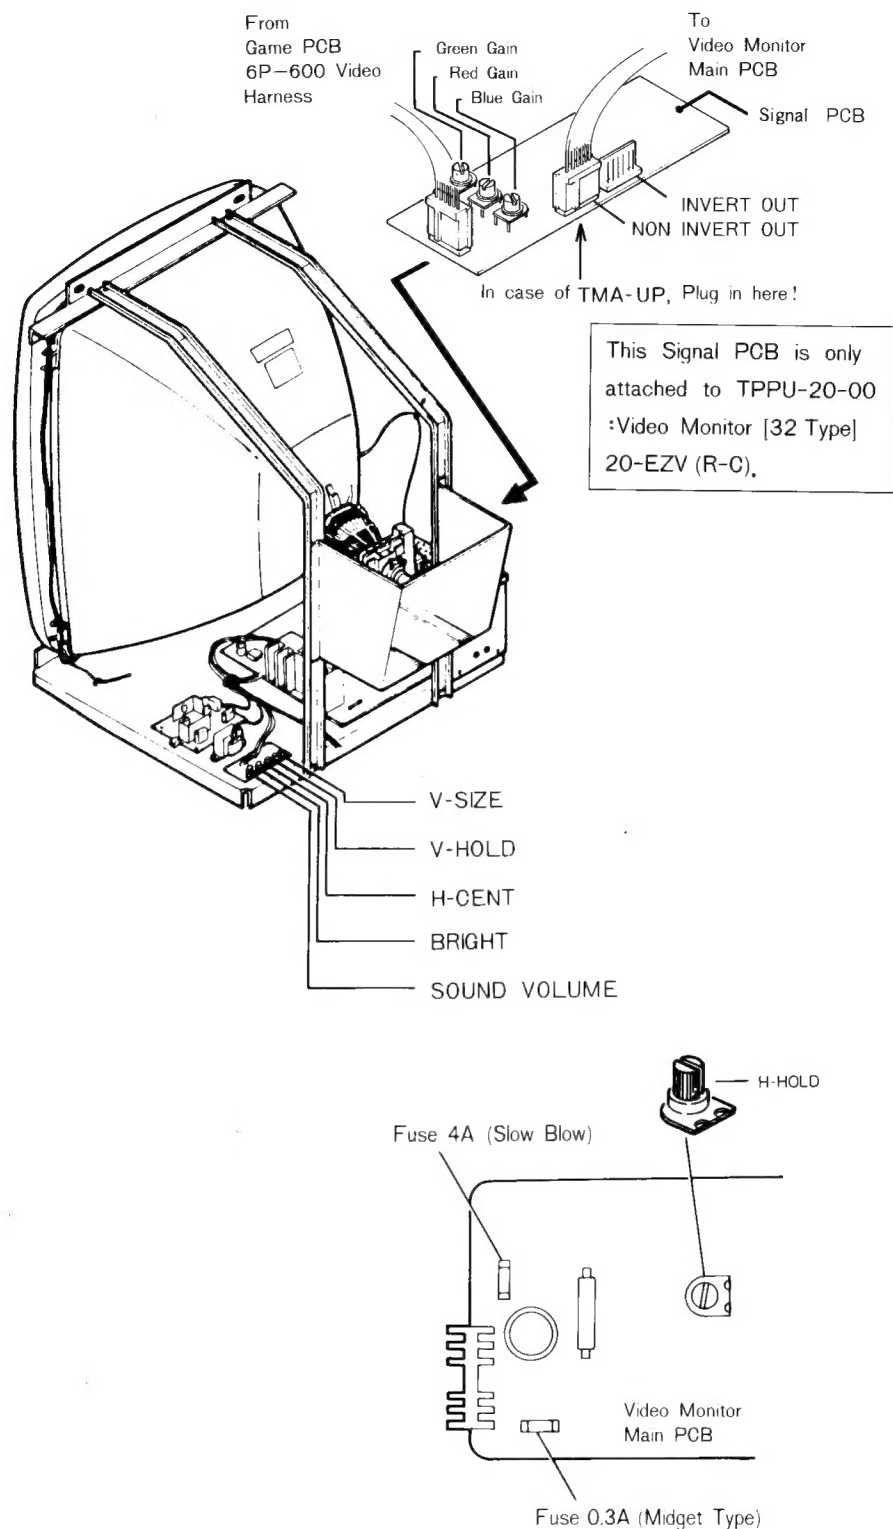

Fig. 4 Video Monitor
(3) Video Monitor fuse	4A 100V 0.3A 100V See Fig. 4